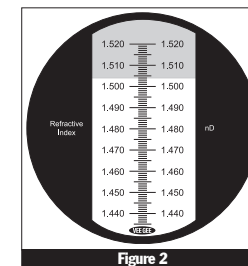
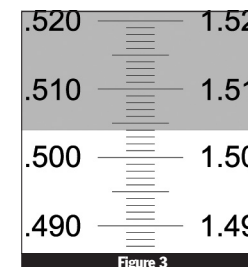

Figure 2
Figure 3
- 5 When the refractometer scale is viewed through the eyepiece, the upper field of view will be seen as blue and the lower field will be seen as white (Figure 2). Confirm that the boundary line crosses the scale at "1.504" (or the value of the liquid standard being used) (Figure 3).